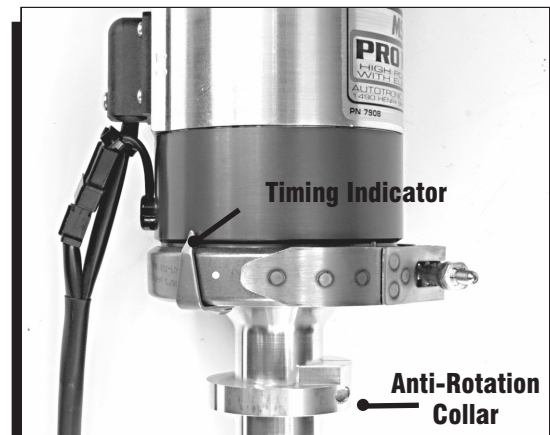

Figure 1 Positioning the Chevrolet Generator.
- Note:** On Chevrolet applications, it is recommended to locate the wiring harness of the generator towards the left side injector stack (Figure 1). This also puts the timing indicator of the magneto in a position that should be easy to view. Also position the band clamp's retaining screw so it points to the left and is in the back of the magneto, close to the firewall. On Ford and Chrysler engines, rotate the base until the pointer is easy to view.